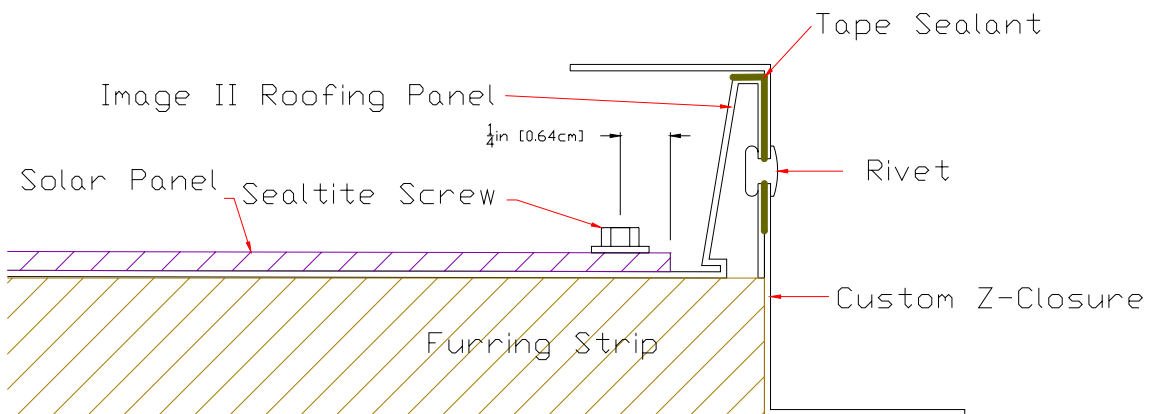

Figure 4.28; Male Leg of Roofing Panel to Custom Z-Closure Rivets
Step 2: Fasten the Male Leg side of the Panel with 2" Sealtite screws. These screws MUST be screwed into the Solar Panel within a 1/4" of the edge of the Solar Panel. One screw in each of the bottom four furring strips, 4-screws; see Figure 4.28 on Page 4-30.